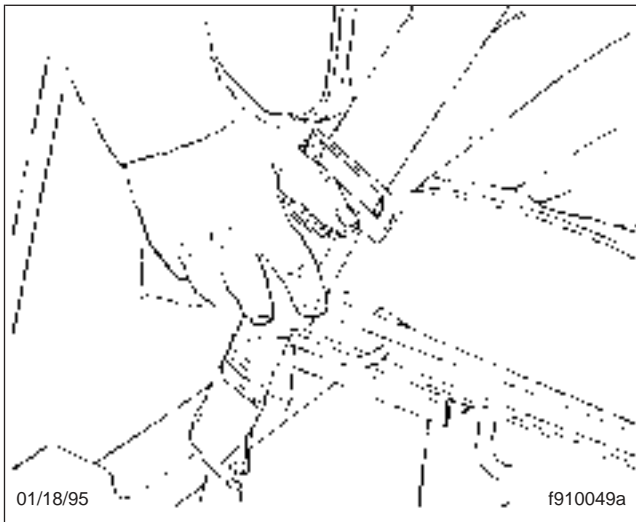

Fig. 5.12, Releasing the Three-Point Seat Belt
4. To unbuckle the three-point seat belt, push the button on the buckle as shown in **Fig. 5.12**. If the Komfort Latch was used, release it by giving the shoulder belt a quick tug. If you lean forward against the shoulder belt, the Komfort Latch will automatically release, and will need to be reset.
6. To unbuckle the three-point seat belt, press the release button on the buckle; see **Fig. 5.12**.